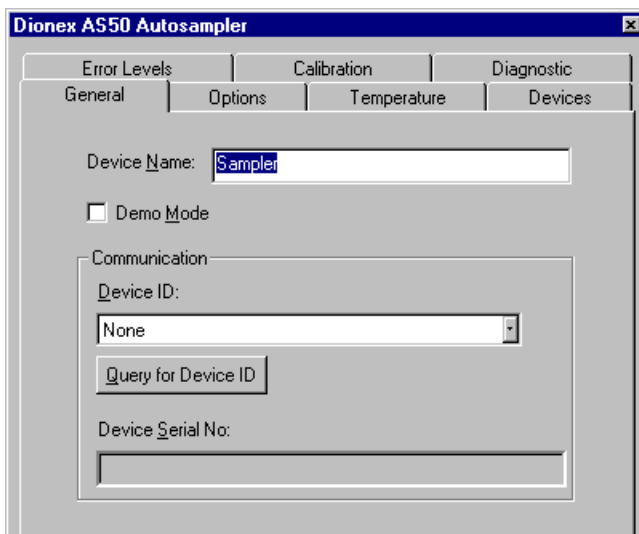

Figure 19. AS50 Configuration Properties
- Click **OK**. A configuration properties dialog box for the device appears. Figure 19 shows an example of the properties for an AS50 Autosampler.